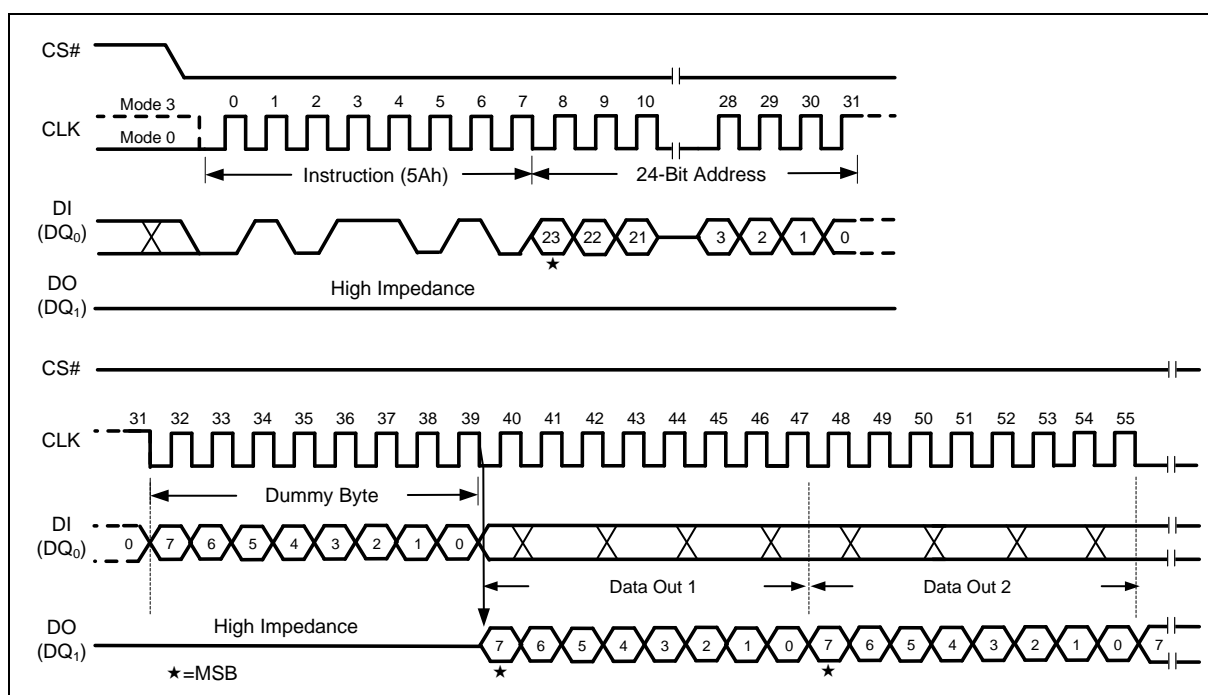

Figure 548 Read SFDP Register Instruction
The Read SFDP instruction is initiated by driving the /CS pin low and shifting the instruction code “5Ah” followed by a 24-bit address ( $A_{23-A_0}$ )(1) into the DI pin. Eight “dummy” clocks are also required before the SFDP register contents are shifted out on the falling edge of the 40th CLK with most significant bit (MSB) first as shown in Figure 548.